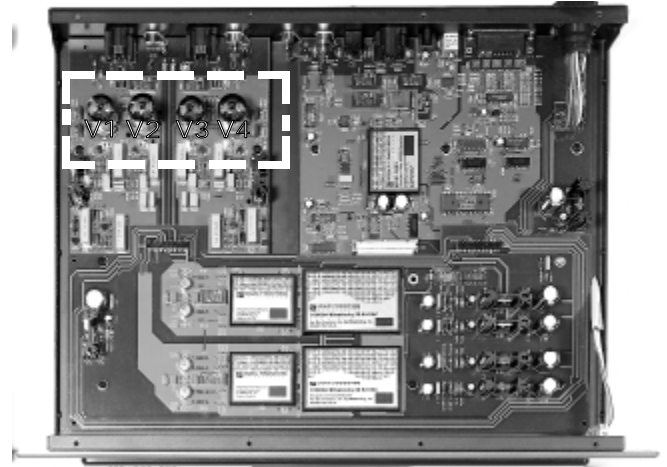

Figure 4 - Processor 3 tube installation locations.
4. Now examine the printed circuit board (PCB) above the tube sockets in the Processor 3 for the designations matching the designations on the tubes (See Figure 4 for further clarification).